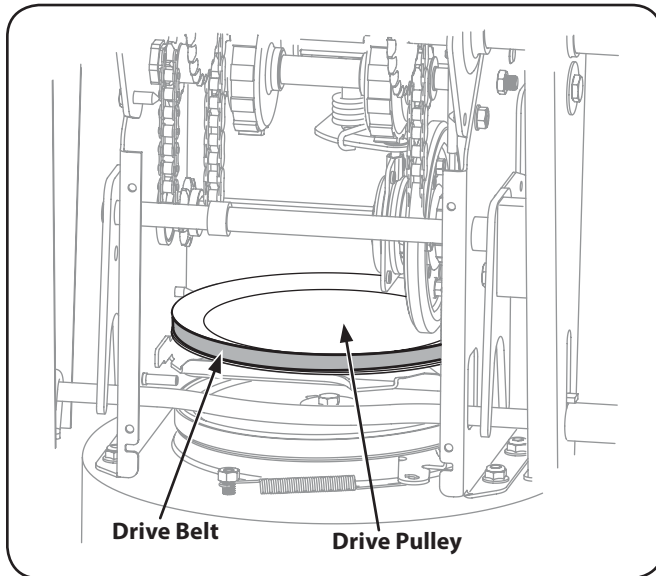

Figure 7-7
- Slip the drive belt off the pulley and between friction wheel and drive pulley. See Fig. 7-7.